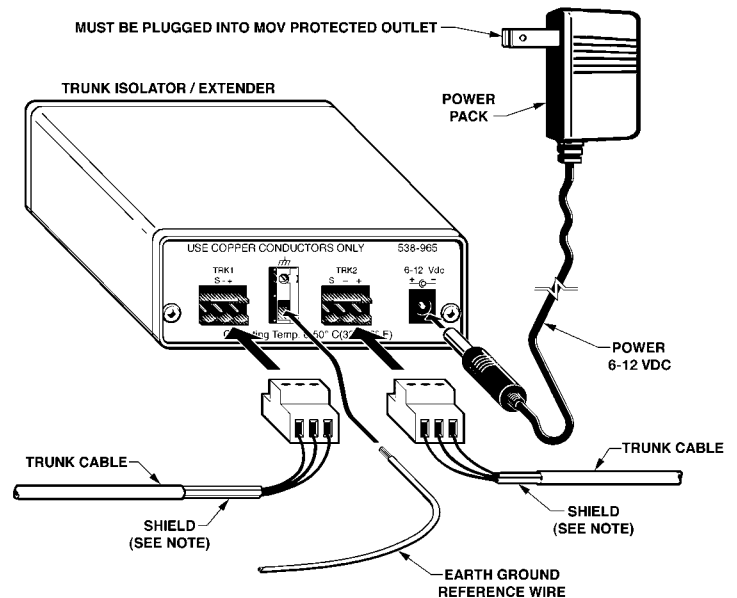

Figure 3. Connections to HSTIE.
6. Connect the trunk to the trunk ports, making sure the trunk polarity is correct (S, -, +). See Figure 3.